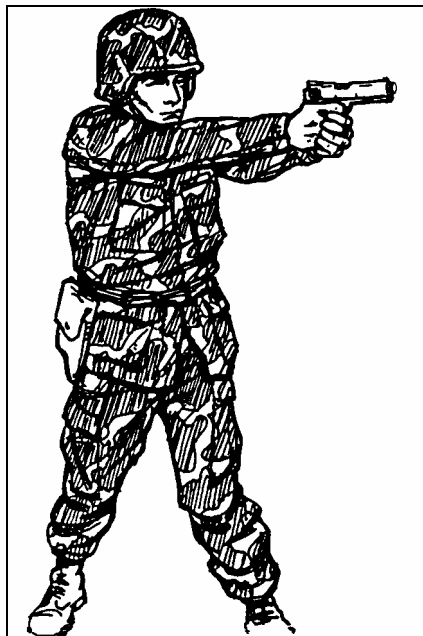

Figure 2-16. Traversing to the left.
(2) **Traversing to the Left** (Figure 2-16): The upper body turns to the right, and the right firing arm straightens out. The left arm is slightly bent.